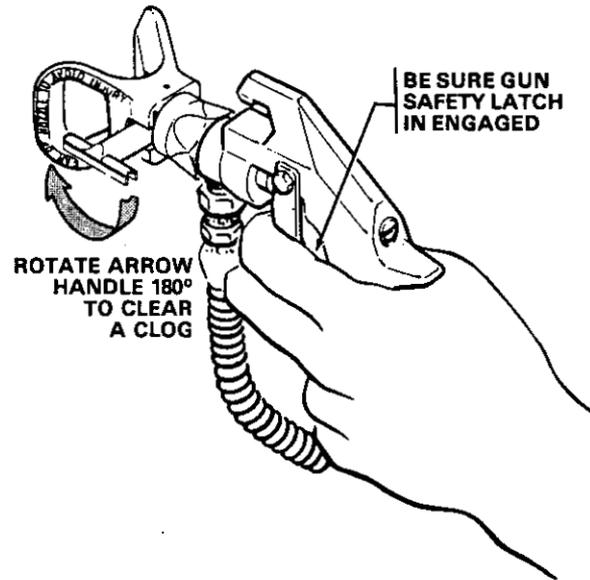

Fig 5
2. Install the Tip Guard and SwitchTip (Refer to Fig 5.)
- c. Test the spray pattern. To adjust the direction of the spray pattern, engage the gun safety latch and loosen the tip guard retaining nut. Position the tip so the groove is horizontal for a horizontal pattern or vertical for a vertical pattern. Then tighten the retaining nut. Refer to Fig 5.
- b. If the spray tip does clog, release the gun trigger, engage the gun safety, and rotate the spray tip handle 180°, so the arrow points back to the gun. See Fig 5.